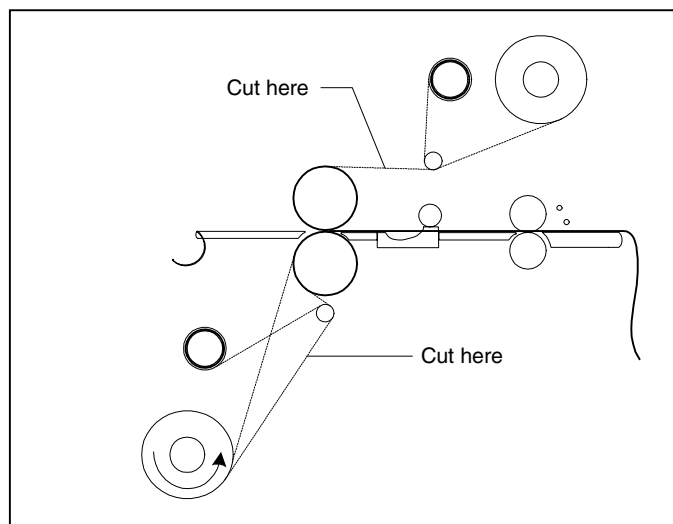

Fig. 31
1. Cut remaining top and bottom film webs between the idler bar and heat rollers (Figure 31).